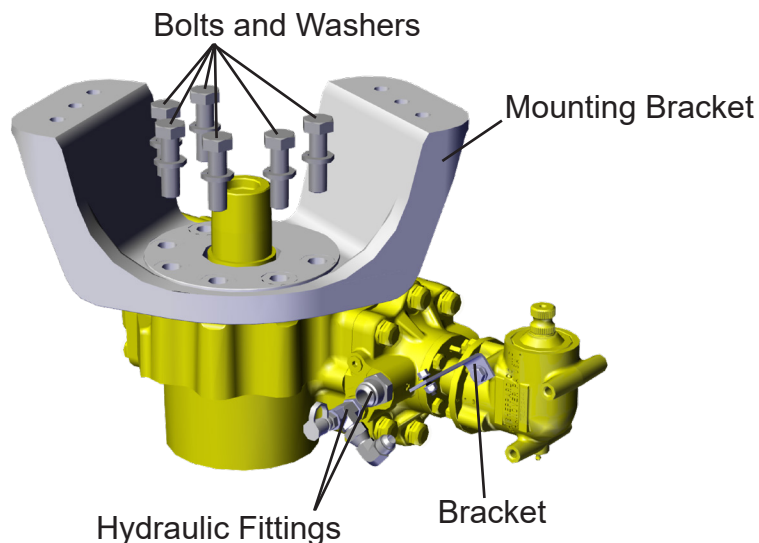
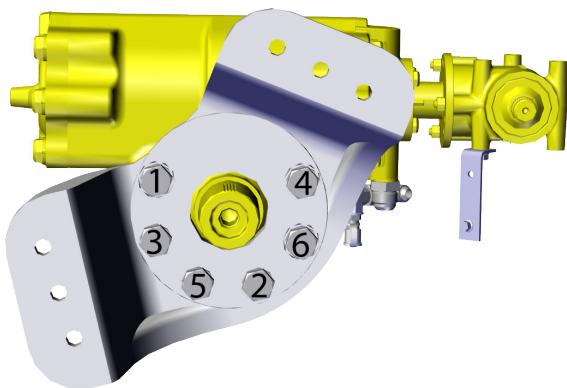

Figure 7
Figure 8
17. Loosen and remove the six bolts and washers securing mounting bracket to steering gear. See Figure 7. Save bolts and washers and mounting bracket.
18. Remove hydraulic fittings and bracket from steering gear. See Figure 7. Save hydraulic fittings and bracket.
19. Install hydraulic fittings and bracket removed in Step 18 in new steering gear. See Figure 7.
22. Secure mounting bracket to steering gear with six bolts and washers removed in Step 17. See Figure 7. Final tighten mounting bolts to 330 ft. lbs. using torque sequence in Figure 8.